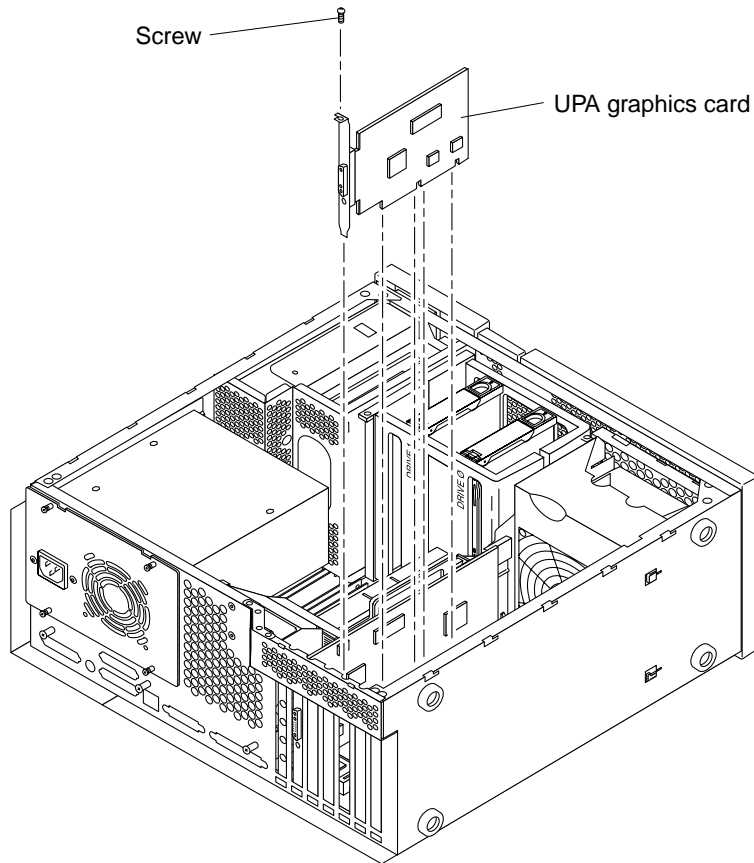

FIGURE 10-4 Removing and Replacing a UPA Graphics Card
5. Remove a UPA graphics card as follows (FIGURE 10-4):
1. **Replace the UPA graphics card as follows (FIGURE 10-4):**